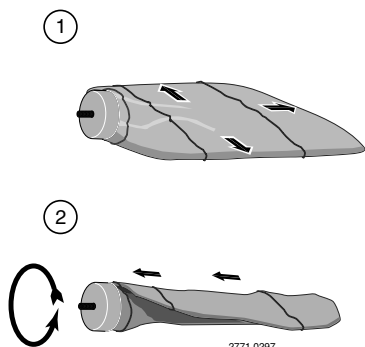

Figure 4: Spread Air Cell Out Flat and Squeeze Air Out; Roll Cell Tightly, Squeezing Remaining Air Out Through Valve
- B. Place air cell on clean surface with opening to one end; flatten bag to force air out. Pull ends out flat (see Figure 4).
- C. To get tightest possible wrap, start on one side and **TIGHTLY** roll air cell to other side (see Figure 4). Force out as much air as possible.